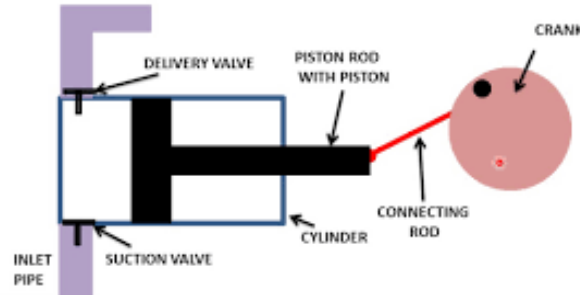

Fig 13: Single stage reciprocating pump
like partial, half, three-fourth and full operating conditions acting reciprocating pump as shown in Fig.13.
14.2 Calculate the overall efficiency of single as showed in fig.13